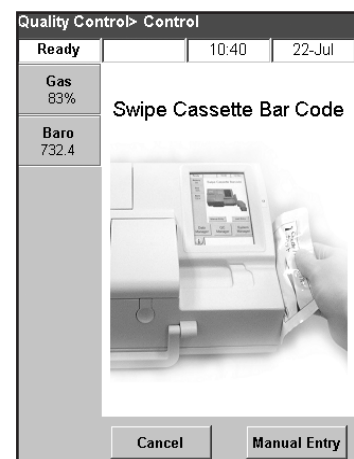

Figure E-1: Swipe bar code
5. Swipe the bar code on the VetStat sample cassette package (Figure E-1) being used for quality control.